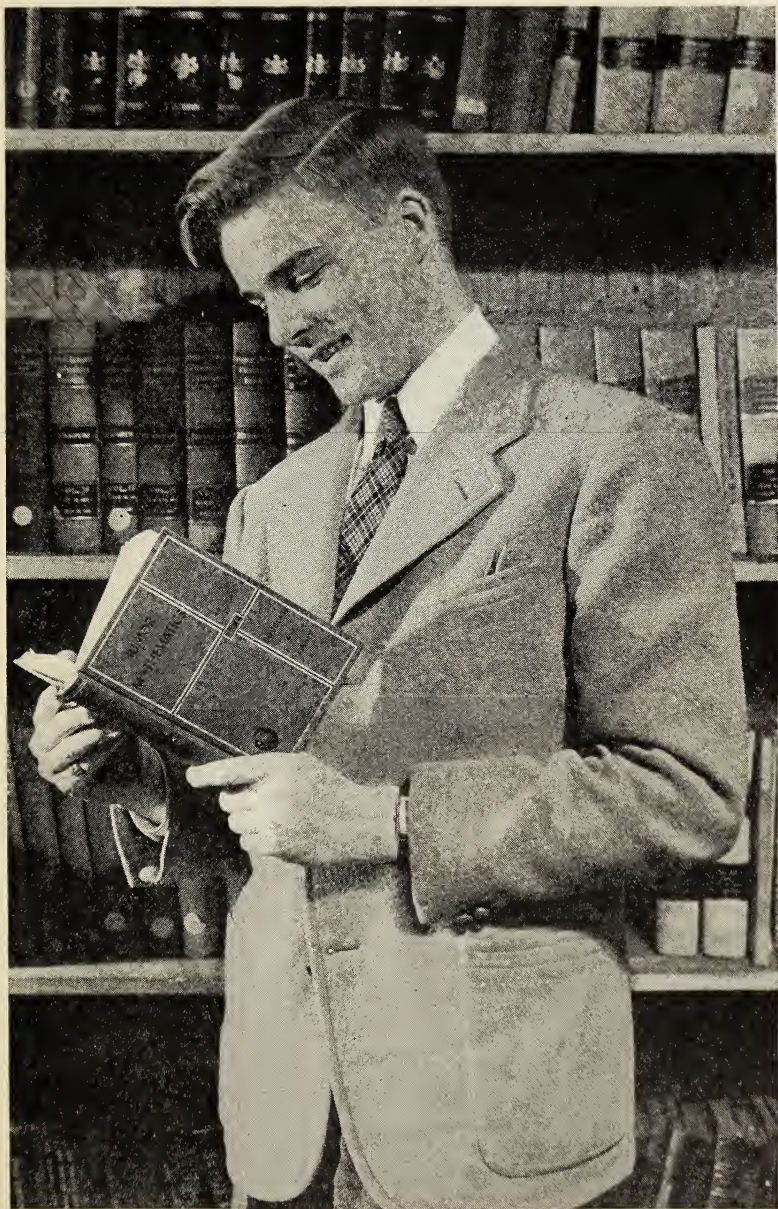

FIG. 12. It is possible to study mathematics and like it. (*Philip D. Gendreau*)
23. How can you solve problems? No one has been able to find an easy way to solve all numerical problems, but possibly we may be able to find some methods which are easier than others. [See Fig. 12.] Here are some suggestions.